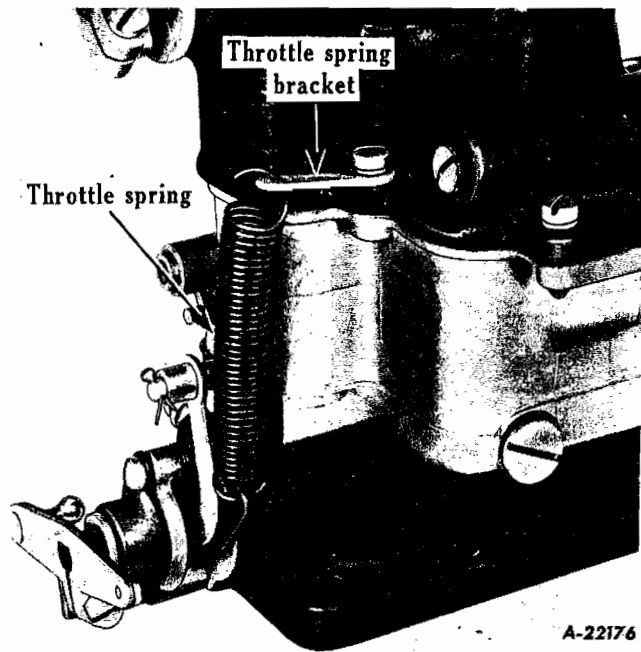

Fig. 67
21. Assemble air horn to main body. Recheck the float setting using gauge. Holding assembly gasket in place assemble air horn to main body and tighten all screws tight. Be sure throttle lever spring bracket is installed in correct position at accelerating pump chamber. See Fig. 67. Place assembly to one side being careful not to damage accelerating pump operating rod.